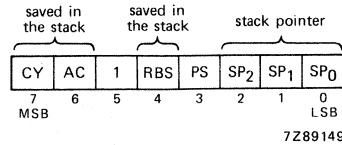

Fig. 16 Program status word.
**Program status word** (see Fig. 16)